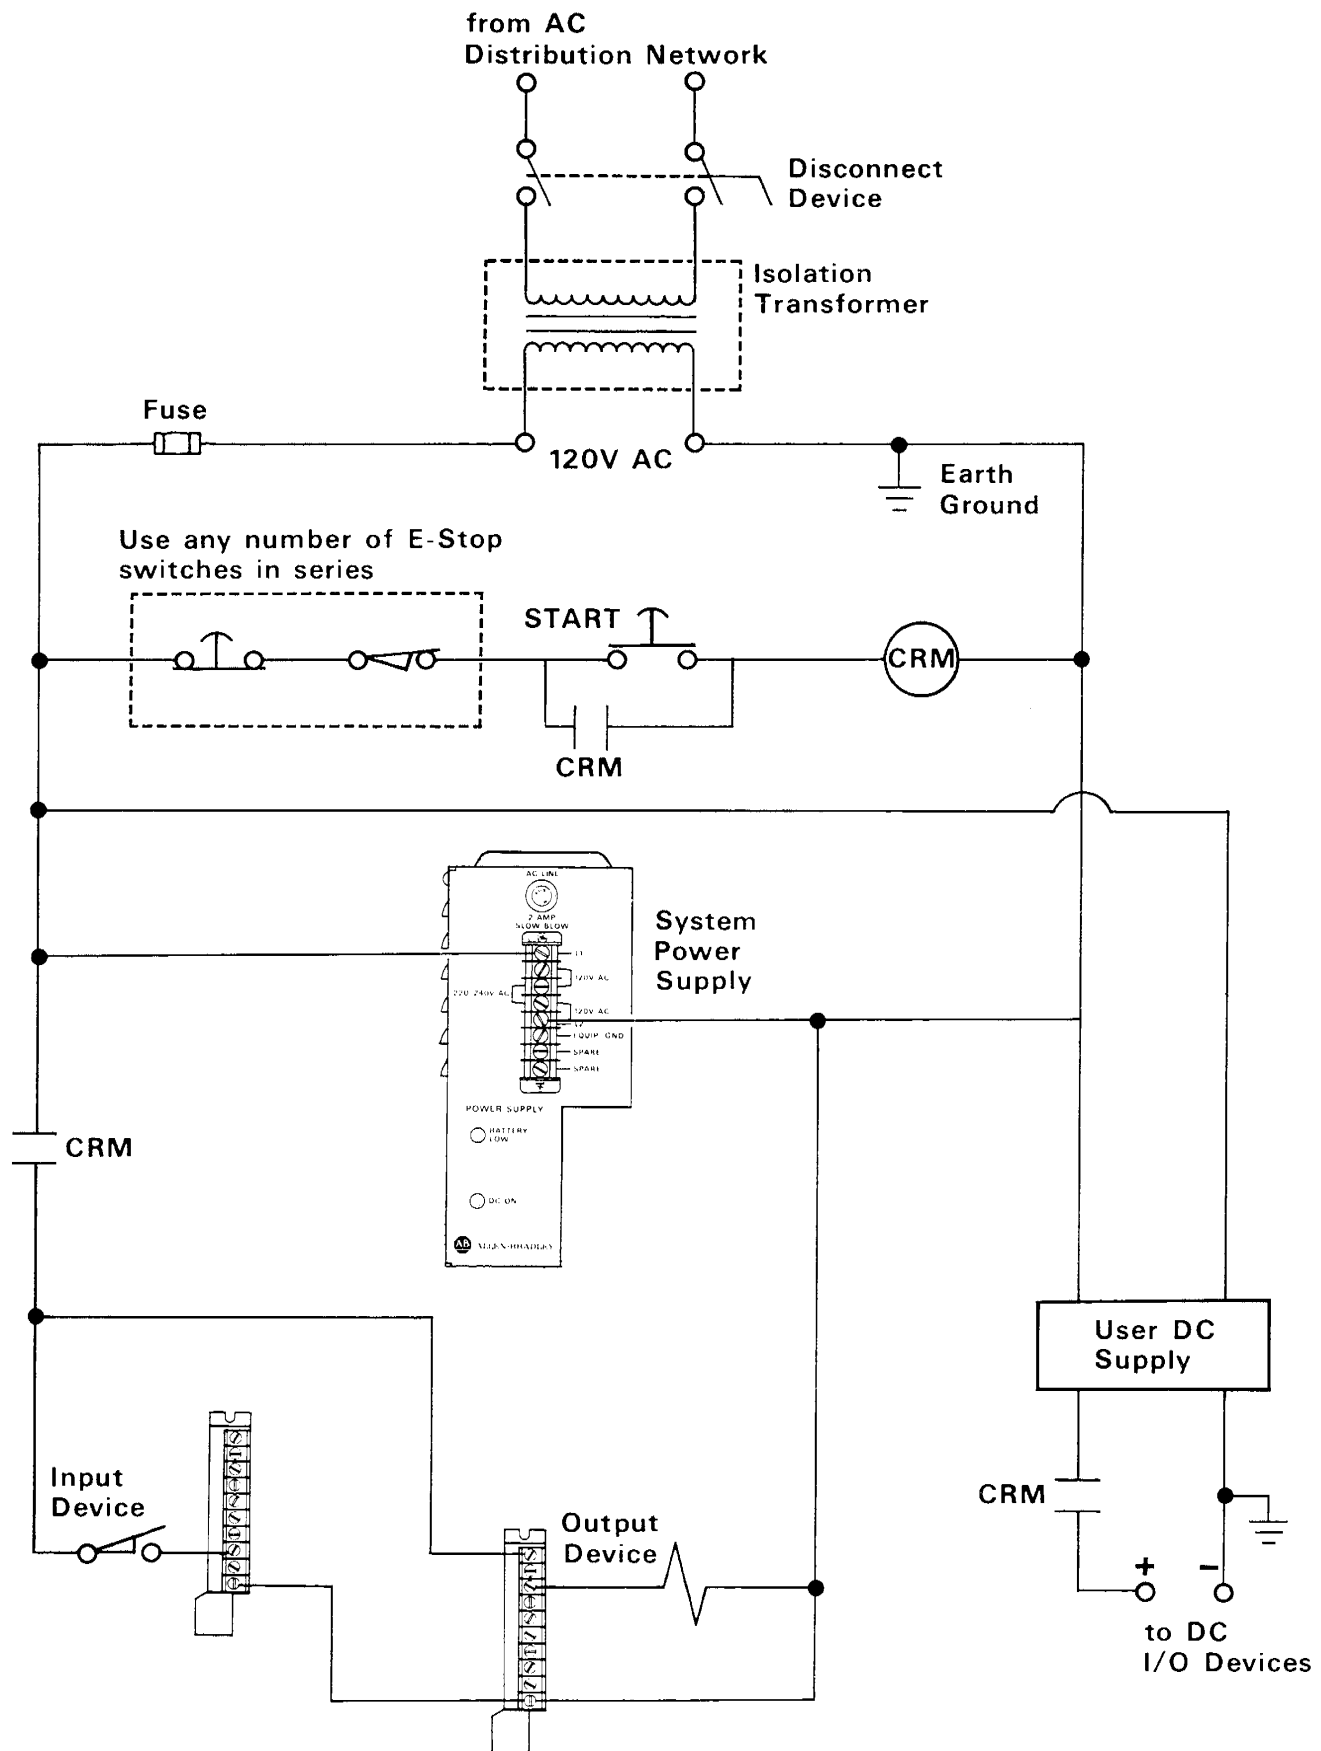

Figure 3.7 – Master Control Relay Configuration
Wiring of the control relay in a grounded system is shown in Figure 3.7. **1** When any of the Emergency Stop switches are opened, power to input and output devices is removed. However, power continues to be supplied to the System Power Supply. Thus, the controller itself continues operation, even though all of its inputs and outputs
Once a fault is corrected, the controller can be restarted by placing the Mode Select Switch on the Mini-Processor in TEST, pressing the START switch, as shown in Figure 3.7, and then turning the Mode Select Switch to RUN.
**3.1.4 Common AC Source** — It is strongly recommended that the System Power Supply have the same AC source as input and output devices. This relationship is depicted in Figure 3.7.
To take fullest advantage of the Supply's input-line monitoring, therefore, the same AC source powering the Supply should be used for I/O devices. As Figure 3.7 illustrates, it is also recommended that any DC supply for I/O devices be derived from the common AC source.
**3.1.5 Transformer Rating** — A user-supplied isolation transformer is often used along the AC line to the controller. (Refer to Figure 3.7.) This type of transformer provides isolation from the user's power distribution system and is often used as a "step down" transformer to reduce line voltage to desired levels. Any transformer used with the Mini-PLC-2 controller must have a sufficient power rating for its load. This power rating is generally expressed in units of volt-amperes, VA.